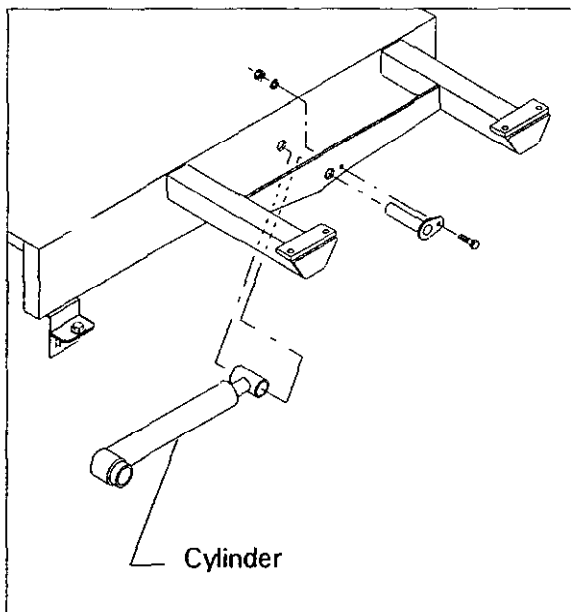

Figure 8
## WORKMAN ENGINE OR HYDRAULICS (Fig. 8)
2. Attach the cylinders as shown in Fig. 8. Use the tilt of the cylinders only for service of the engine or hydraulics underneath.